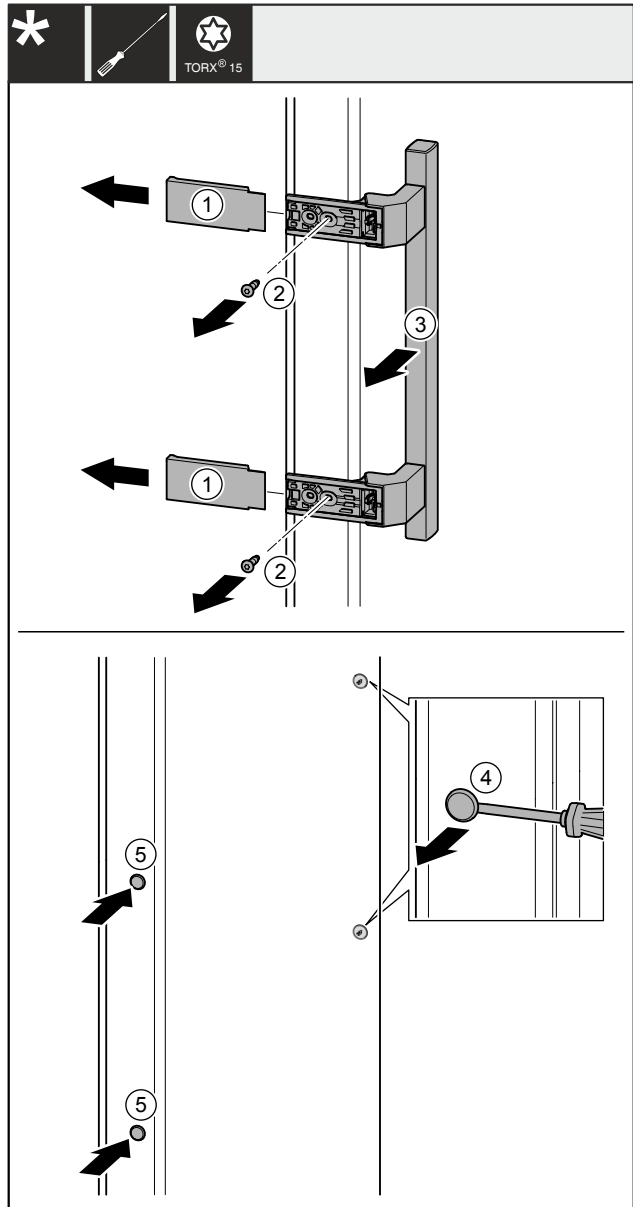

Fig. 40
- Remove the covers Fig. 40 (1).
- Unscrew screws Fig. 40 (2) with screwdriver.
- Remove the handle Fig. 40 (3).
- Use a slotted screwdriver to lift the side plug Fig. 40 (4) carefully and pull it out.
- Re-insert the plug Fig. 40 (5) on the other side.